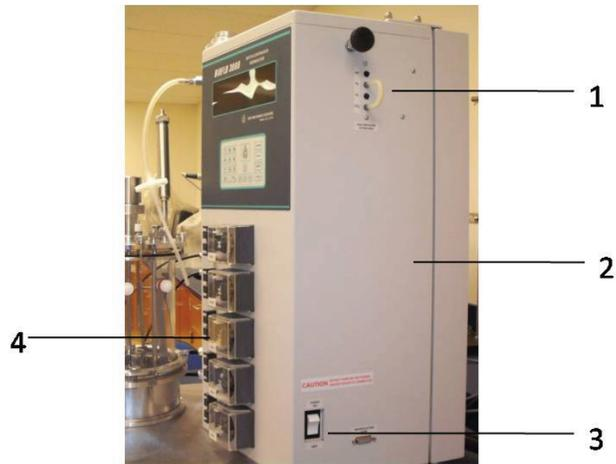

Figure 5: BioFlo 3000 Side View
- 9.5. Figure 5: BioFlo 3000 Side View